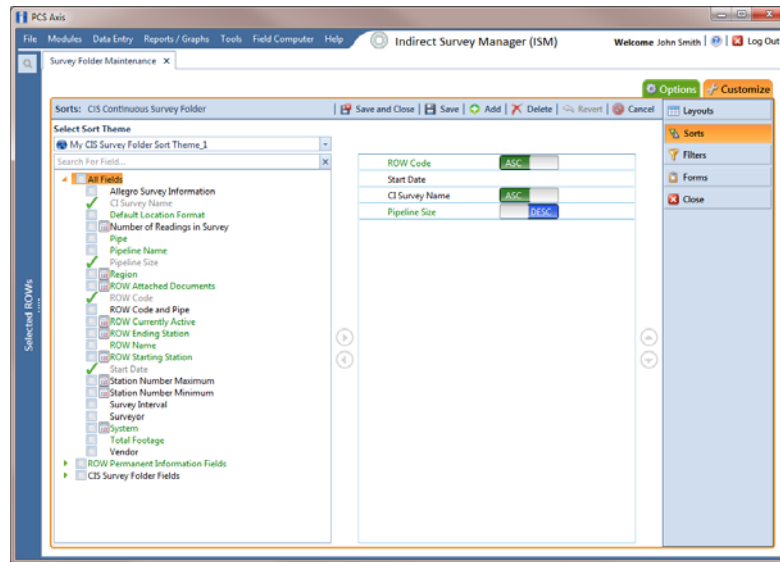

Figure 6-16. Sort Theme
- 9 Click **OK** to save changes and return to the *Sorts* page (Figure 6-16, page 198).